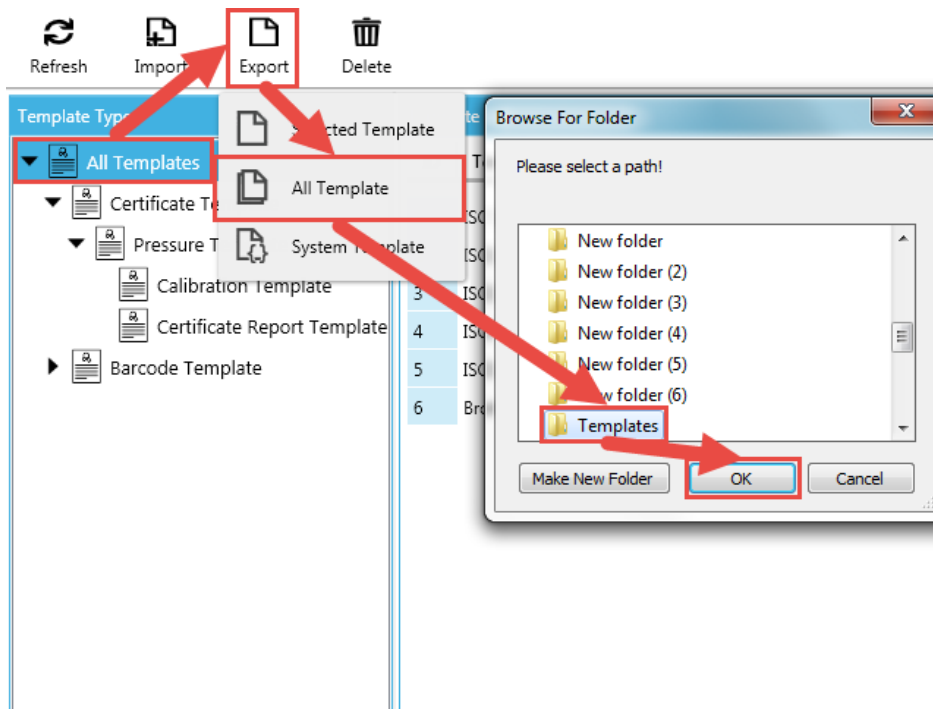

Figure 3
(2) Get the custom template, as shown in Figure3.